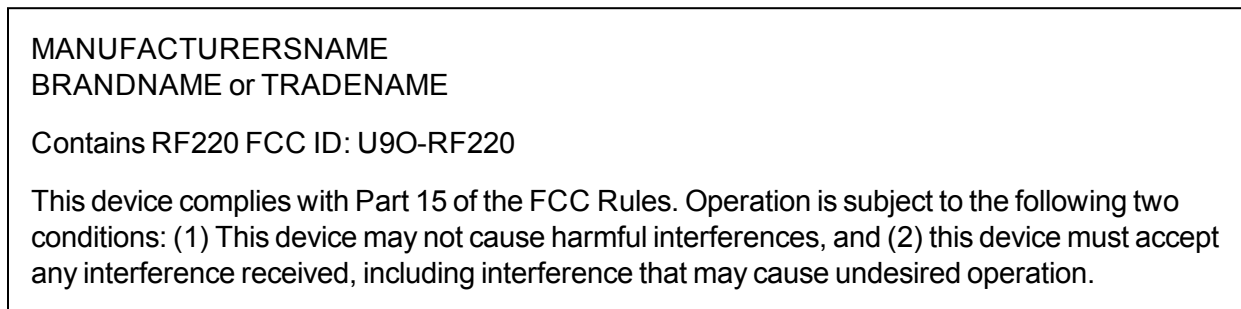

Figure 6: FCC Label
1. The system integrator must place an exterior label on the outside of the final product housing the RF220 Modules. **Figure 6** below shows the contents that must be included on this label.
NOTICE: The OEM must make sure that FCC labeling requirements are met. This includes a clearly visible exterior label on the outside of the final product housing that displays the contents shown in **Figure 6** below.